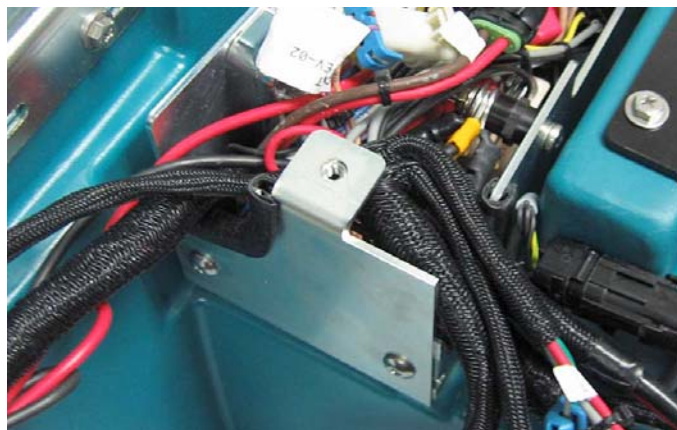

Fig. 21
19. Arrange the ec-H2O wire harness within the circuit breaker box as shown (Figure 21).